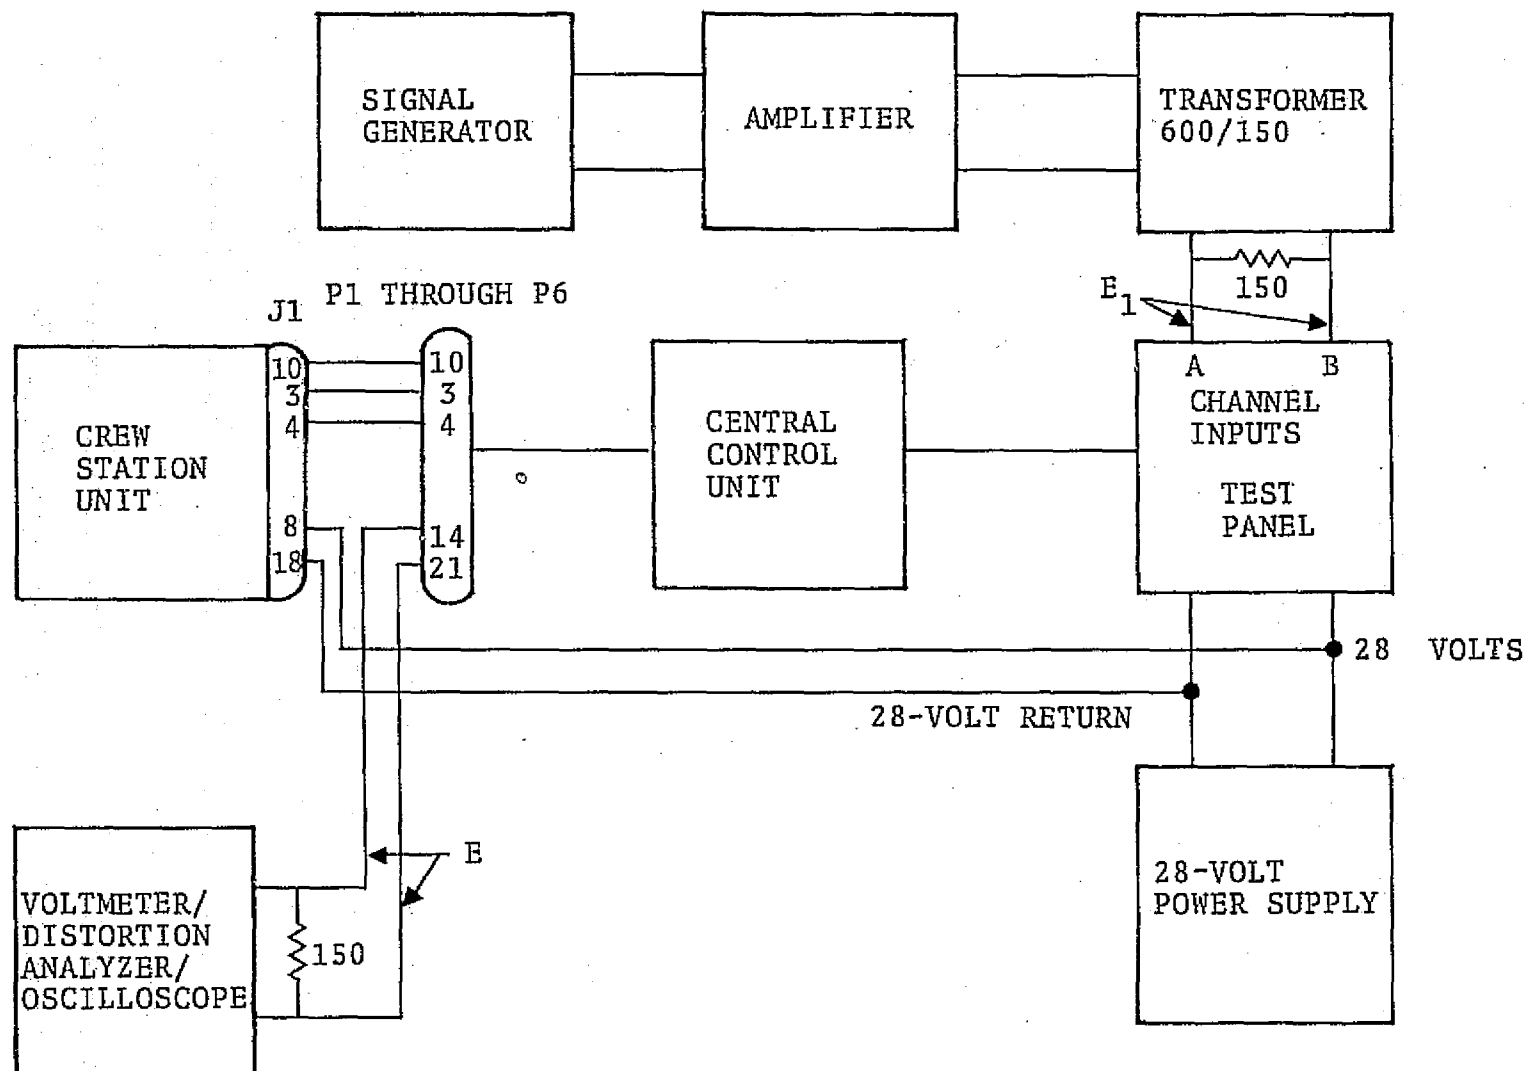

Figure 5-5. — Receive section frequency response/distortion/internal noise test setup.
1. Connect the equipment as shown in figure 5-5 starting with plug P-1 and connecting the signal generator to the channel 2 input.
9. Repeat the above procedure with the remaining five plugs, P-2 through P-6 connected in the test set-up of figure 5-5. Record the resultant data on data sheets C-11 through C-15.
1. Connect the equipment as shown in figure 5-5 using plug P-2.